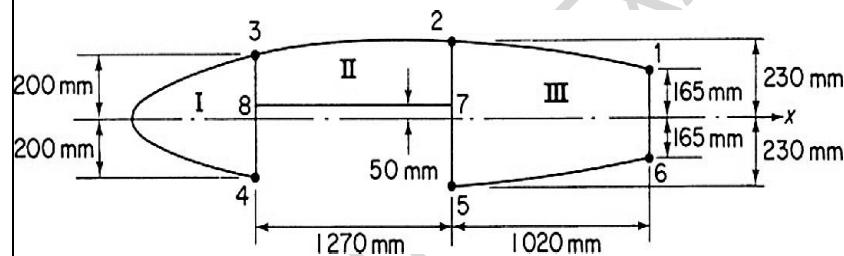

Figure 7b
- b) The wing section shown in Fig 7b. has been idealized such that the booms carry all the direct stresses. If the wing section is subjected to a bending moment of 300 kNm applied in a vertical plane, calculate the direct stresses in the booms. $B1=B6=2580 \text{ mm}^2$, $B2=B5=3880 \text{ mm}^2$, $B3=B4=3230 \text{ mm}^2$